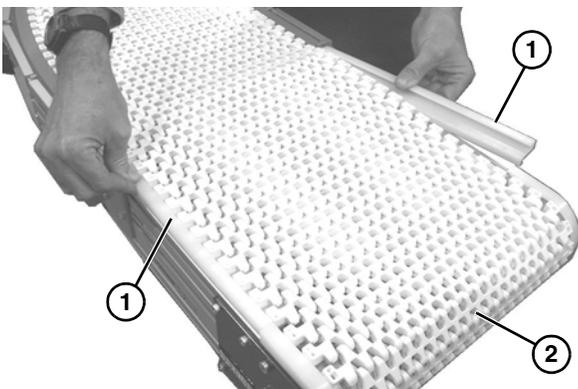

Figure 21
- Slide the top wear strips (**Figure 21, item 1**) with wide lip facing up, under the conveyor belt (**Figure 21, item 2**) catching the bottom lip on conveyor frame, to cover the belt tabs.